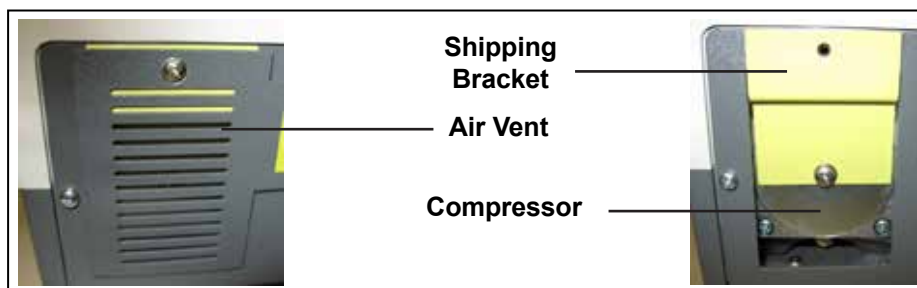

Figure 1-8, Shipping Bracket Removed
2. Remove the yellow shipping bracket according to the following steps. Refer to Figure 1-8.